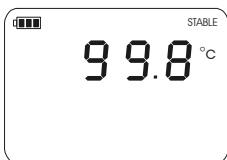

Figure 12: Unit goes to measurement mode
4. When the **cal** key is released, the unit will go to measurement mode (Figure 12).